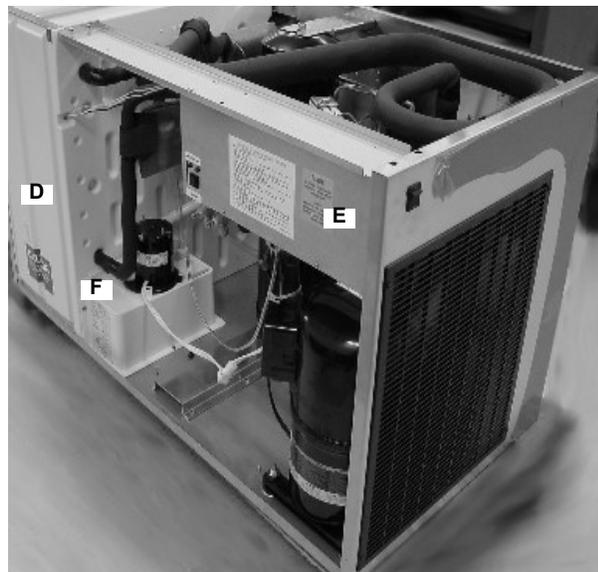

Figure 8.
4. Remove the evaporator splash panel (D) and control box cover (E) (Figure 8).
The refrigerant type and charge are indicated on the serial plate, located on the water pan (F) (Figure 8). This charge amount does **NOT** include that which is normally present in a factory charged condenser or line set.